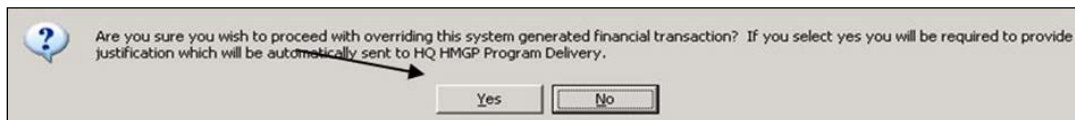

Figure 10-12: Admin Override 2nd acknowledgement message
15. Selecting No will return the amount overridden to the previous amount calculated by the system. Selecting Yes will prompt a second acknowledgement confirmation (Figure 10-12).